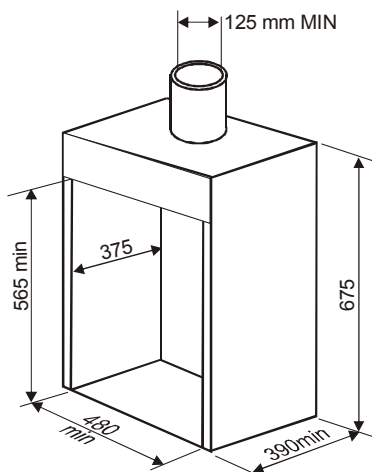

Figure 45 – Minimum Dimensions of Metal Flue Box
3. Any metal flue box must comply with BS 715 and have minimum dimensions as shown in Figure 45. There must be a minimum of 50mm clearance from any combustible material; alternatively the box may be insulated with 25mm Rockwool or equivalent. The top of the box must be insulated with 25mm Rockwool or equivalent.